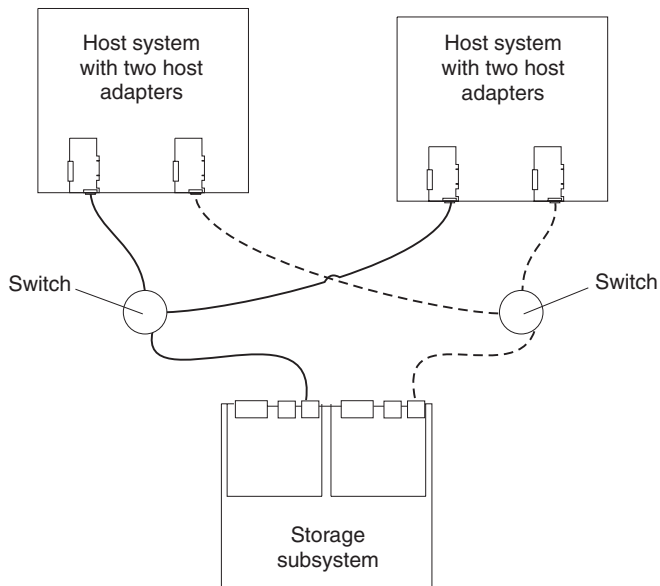

Figure 57. Example of a dual SAN fabric configuration
- Dual SAN fabric configuration, as shown in Figure 57 on page 84
In Figure 57, the Fibre Channel switches are connected together via the inter-switch link (ISL) to form a dual SAN fabric.